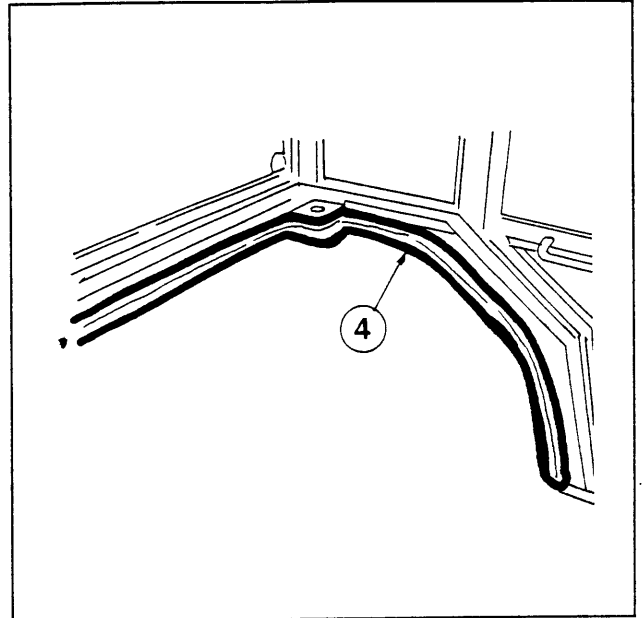

Figure 4
9. Move to the cab. Take the 180 degree O-rubber (4) and slide it onto the bottom edges of the side and rear cab panels. Begin at the bottom corner of the left, side panel, then work your way up and back to the rear panel. Move across the width of the cab, then forward and down until you reach the bottom corner of the right, side panel. (see Figure 4)